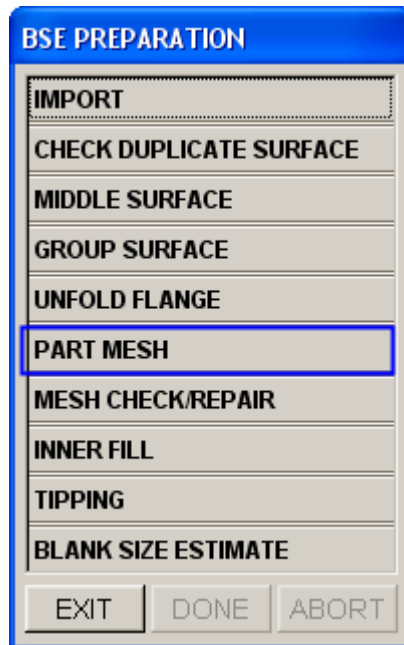

Figure 2.6: BSE preparation dialog box
1. Select **BSE**→ **Preparation**→ **PART MESH** function. See Figure 2.6.